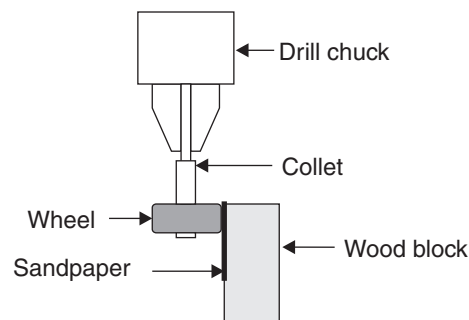

Figure 6. Sanding the wheel.
- Hold a piece of 60 grit sandpaper against the spinning wheel with a flat block of wood. Be careful to keep the wood parallel to the wheel surface, see figure 6, the outside edge of the wheel has small ridges that race rules may require are intact. Sand the wheel only long enough to remove the dimple left in the wheel from molding. You need to apply only light pressure here, too much pressure can overheat the wheel softening the plastic and causing it to wrip off in chunks.